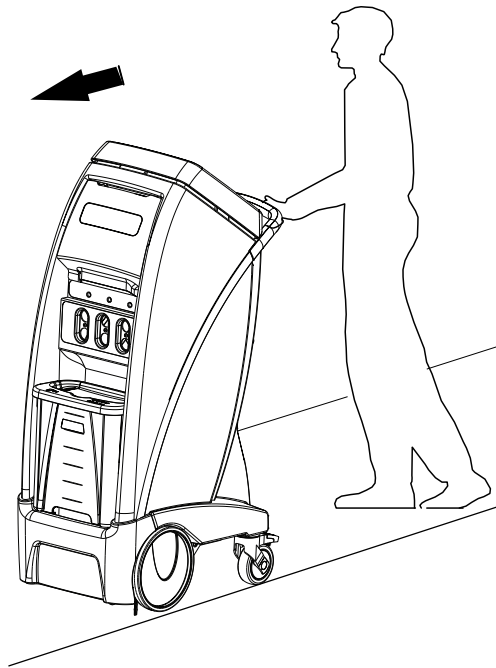

Figure 29 – Transport position
3. Make sure to place the product with the ports facing the front (Figure 29).